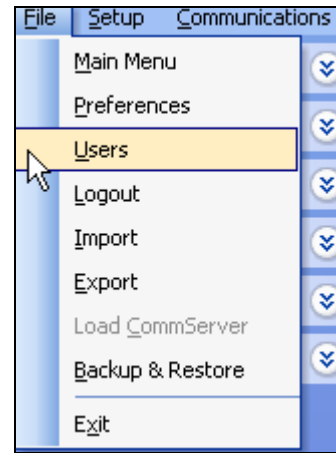

Figure 1.1.9
1. In the toolbar at the top of the screen select **File** and then scroll down to the word **Users** and click on it (Figure 1.1.9).